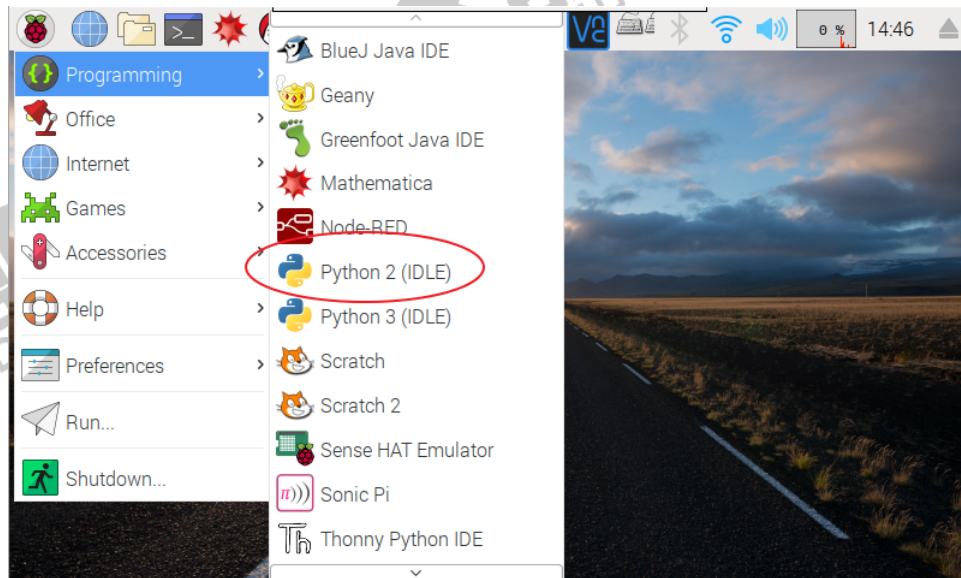

Figure5-3 Launch Python Shell
- (3) Click on Raspberry Pi Start Button, and select [Programming] / [Python 2 (IDLE)] to open Python Shell, as shown in Figure 5-3.